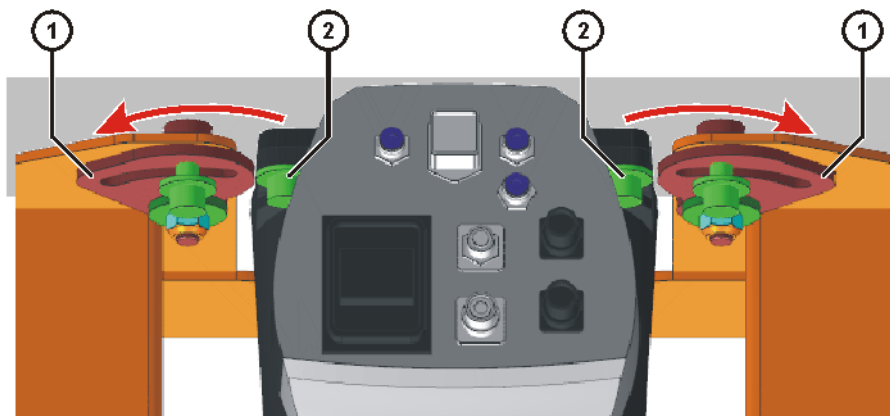

Fig. 8-14: Rotating the swivel holders outwards
15. Rotate the swivel holders outwards (>>> Fig. 8-14).